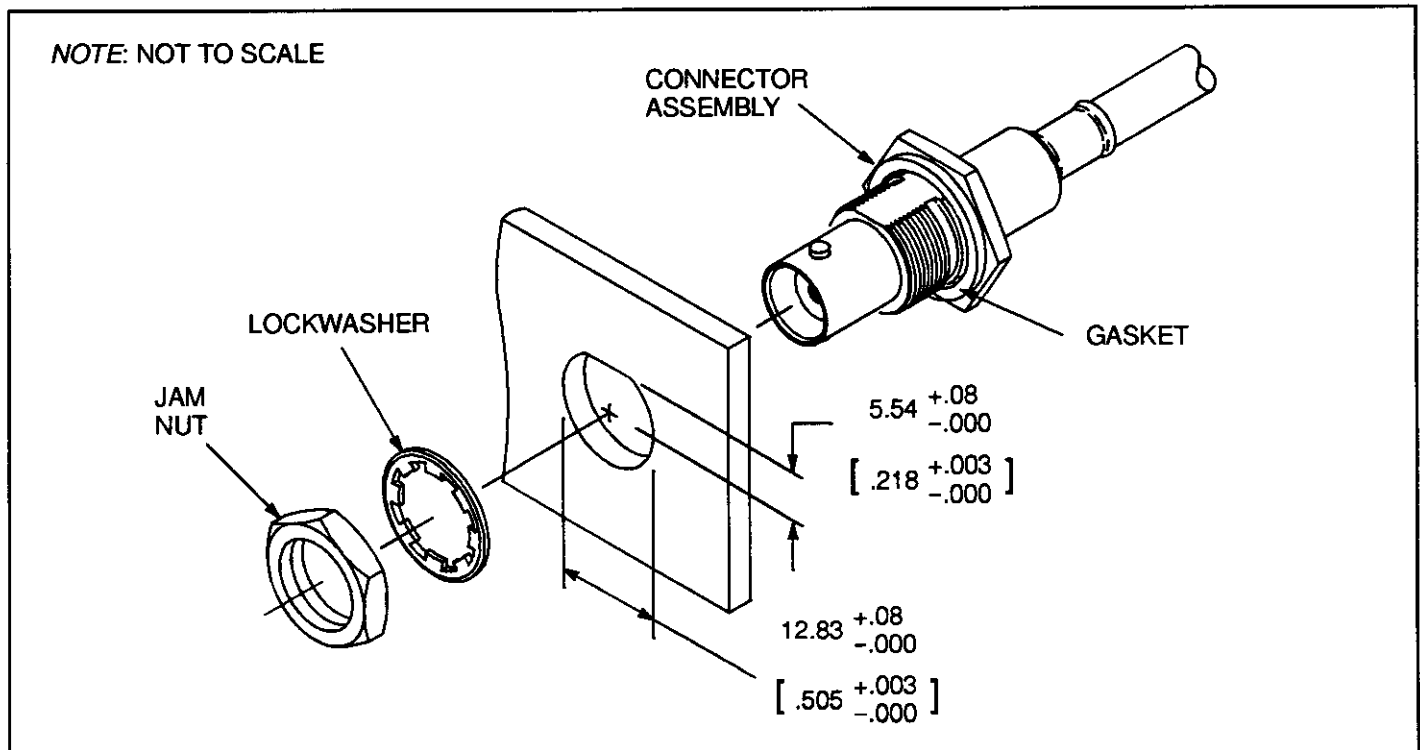

Fig. 9
4. Make the panel cutout using the dimensions in Figure 9. Install gasket onto connector assembly; then insert connector through the cutout. Secure connector with lockwasher and jam nut.